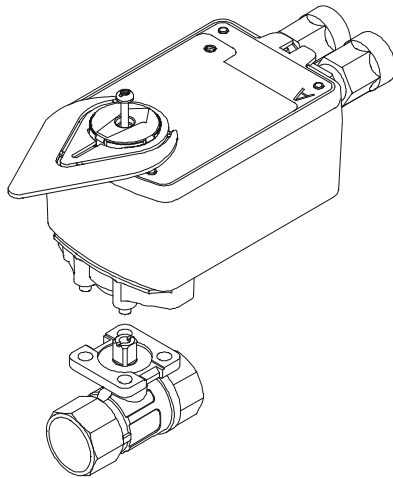

Figure 9: Mount the Actuator
6. Install the actuator on the ball valve (Figure 9). Tighten the actuator mounting screw to a torque of 10 to 12 lb-in. (1.1 to 1.4 N·m) and snap the large adjustable pointer into place.